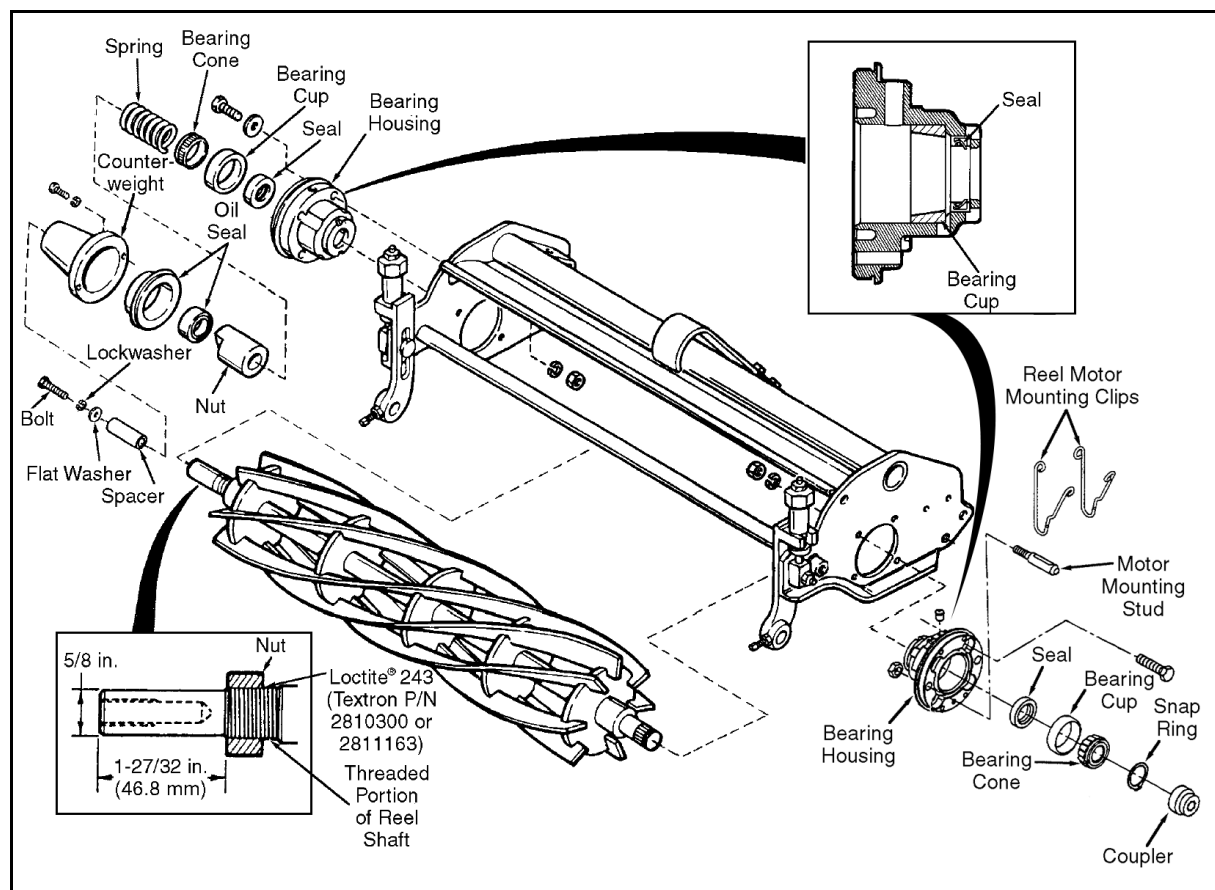

Figure 12F-4. Reel Reassembly
13. Install the rear roller, height adjusters, front roller, skids, and throw shield as shown in Figure 12F-3, sheet 1.
14. Install the left yoke and install the mower unit in the swivel housing (see Figure 12F-1).